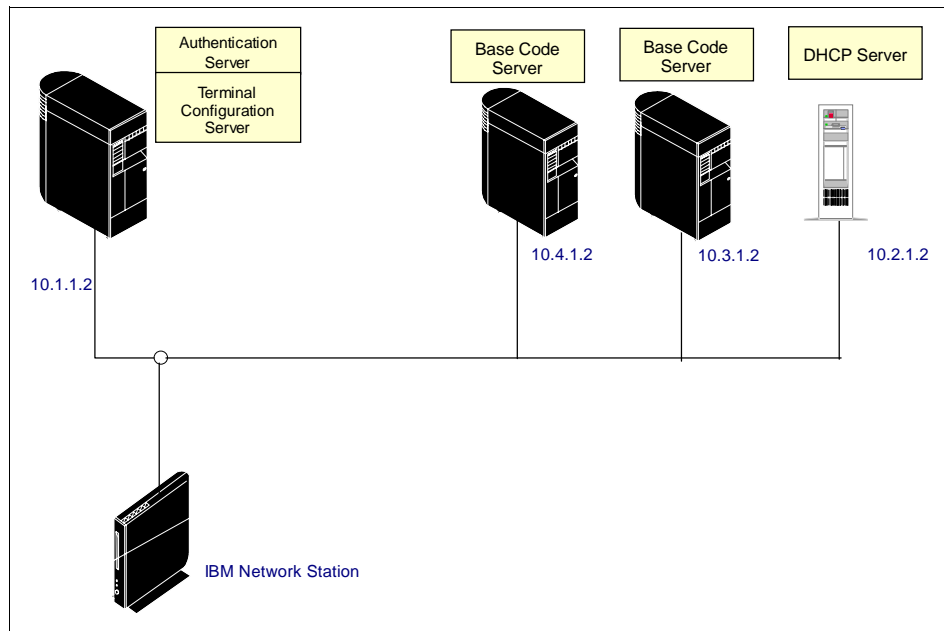

Figure 2. Separation of Servers - Load Balancing Example
- Figure 2 on page 9 shows how the separation of servers function might be used to reduce network congestion if all IBM Network Stations are powered on at 8:00 on Monday morning. In this case, separation of servers is used to split the server functions across multiple systems. For example, one AS/400 (10.1.1.2) provides both the authentication and terminal configuration server functions and the PC server (10.2.1.2) is the DHCP server. In addition, there are two AS/400s (10.3.1.2 and 10.4.1.2) acting as base code servers. This distributes copies of the large executable files (operating system and applications) across servers. Although the PC server providing the DHCP server function only, does *not* require IBM Network Station Manager Release 3. It *must* be installed on the other systems that are providing the base code, terminal configuration and authentication server functions.